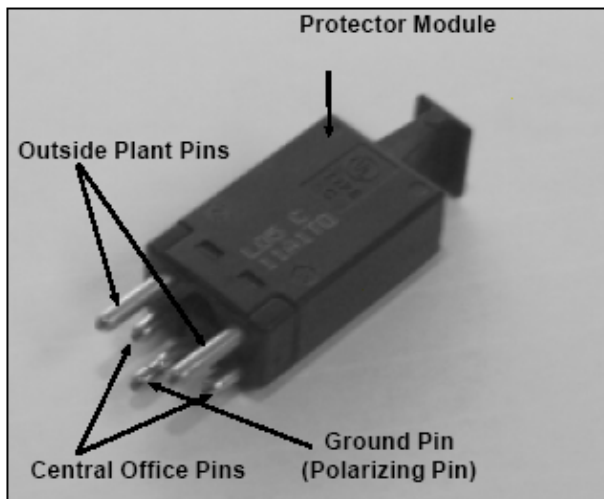

Figure 6 – Protector Module
6.1 Several types of protector modules are available to satisfy various CO requirements for line and equipment protection. The protector modules are all equipped with five contact pins and a plastic shell (Figure 6). The plastic shell for the module is made from a self-extinguishing plastic insulation material.